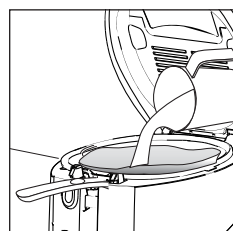

fig. 12
9. Next pour the oil or fat very slowly into the deep fryer so that it does not spill out of the filter (fig. 12).